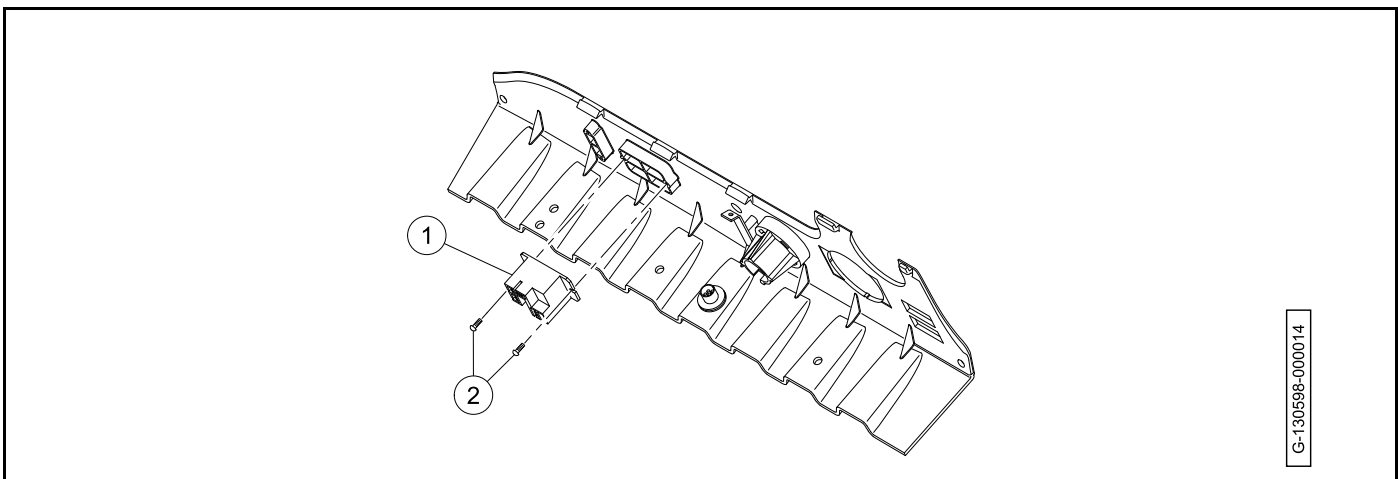
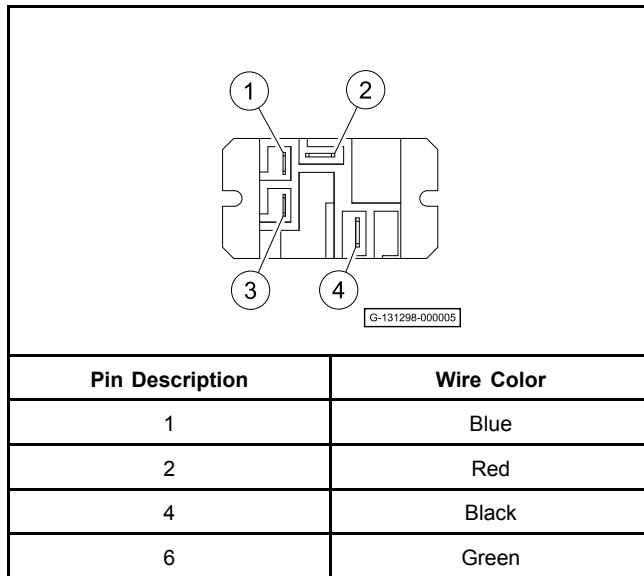

Figure 20-31 Brake Light Relay
Figure 20-32 Brake Light Relay Terminals
3. Disconnect the wires from brake light relay (1) (Figure 20-31, Page 20-28).
4. Remove the screws (2).
1. Install the brake light relay (1) on the instrument panel (Figure 20-31, Page 20-28).
2. Install the screws (2).
3. Connect the wires to the brake light relay terminals (Figure 20-32, Page 20-29).